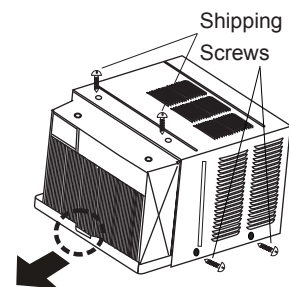

Fig. 5
7. Remove shipping screws from top of unit and also on the side by the base if installed. (See Fig. 5.)